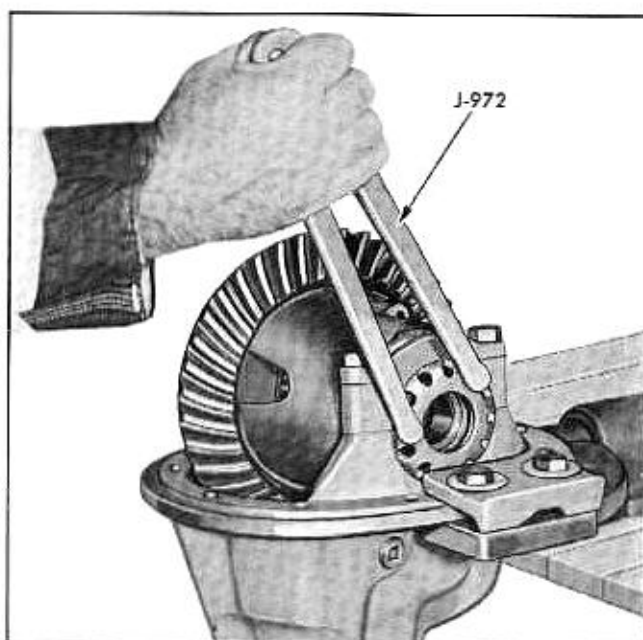

Fig. 4-14 Turning Adjusting Nuts With Wrench J-972
3. Back off right hand adjusting nut using Adjusting Wrench J-972 (Fig. 4-14) and watch outer race of side bearing to see if it turns with adjusting nut. (NOTE: The right hand adjusting nut is farthest from ring gear.) Race should turn with the nut, as nut is backed off, until nut is turned two to four notches (holes in adjusting nut); count notches from original mark to point where race stops turning to check original adjustment and retighten three to four notches.
2. Back off right hand adjusting nut (Fig. 4-14) one notch and tighten left hand adjusting nut one notch (each notch of adjustment will change backlash .003"-.004"). **CAUTION:** Do not decrease backlash below minimum specification of .003". Tap each bearing cap and rock case to ensure proper seating of bearings.